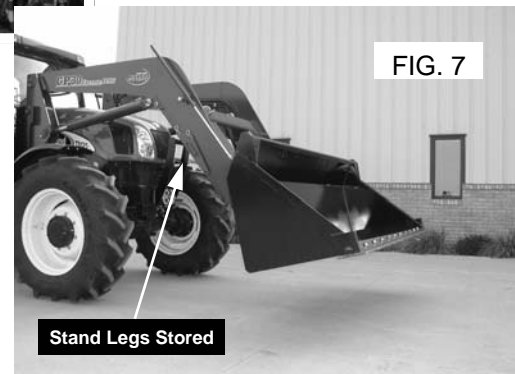

FIG. 7
STEP 7 Return the stand legs to their stored position. See Figure 7.
STEP 7 Disconnect the hydraulic supply to the loader and slowly back away from the loader. See Figure 7.